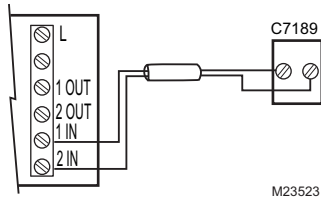
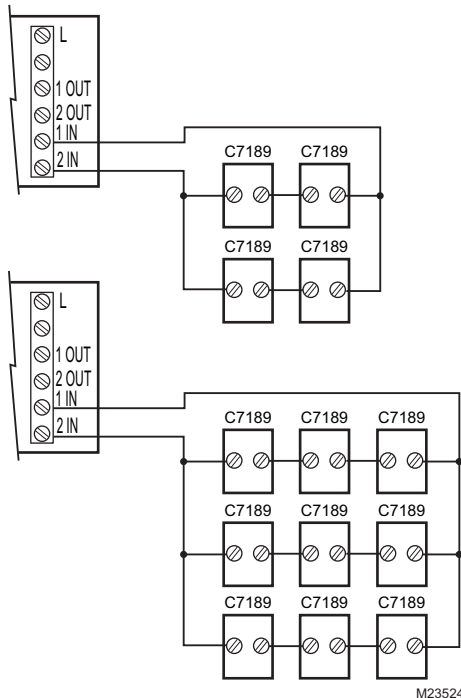

Fig. 26. Wiring a single C7189U1005 Indoor Sensor.
Fig. 27. Wiring Multiple C7189U1005 Sensors.
1. Wire C7189U1005 Indoor Sensor to IN1 and IN2 terminals on the EIM. For an example of general wiring of C7189U1005, see Fig. 26 to wire one sensor and Fig. 27 to wire multiple sensors.